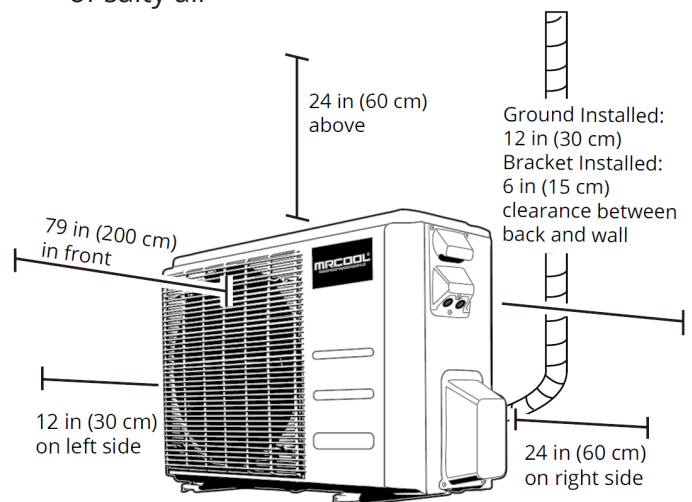

Fig. 5.1
- ☑ Meets all spatial requirements shown in Installation Space Requirements (Fig. 5.1).